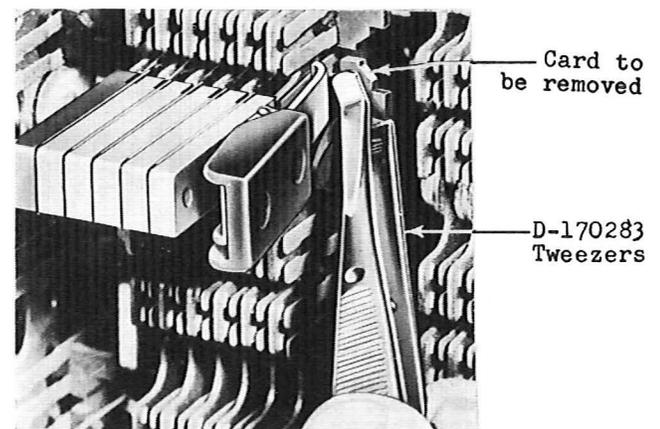

Fig. 7 - Rotating Card to a Flat Position With Tweezers
3.24 Grasp one end of the card with the D-170283 tweezers, as shown in Fig. 7, and rotate the card 90 degrees until it is lying flat. Withdraw the card from the spring assembly with the tweezers or the No. 485A pliers at the right-hand side of the unit unless the card is broken in which case remove each part from the side of the vertical unit associated with the respective part. Removal of the card will be facilitated if it is moved slightly toward the rear of the switch as it is being withdrawn.